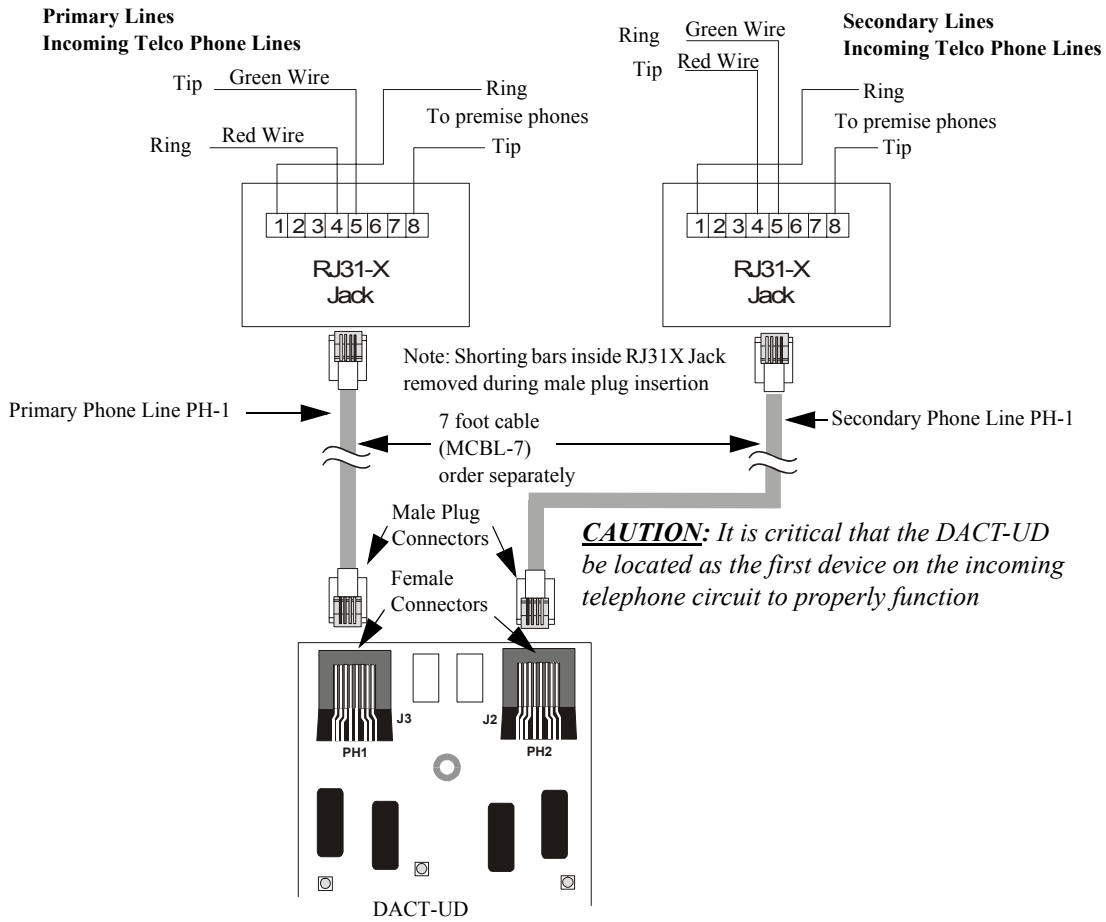

Figure 2.5 Wiring Phone Jacks
- Refer to "Digital Communicator" on page 10, before proceeding with this step. Connect the premises primary and secondary phone lines to the DACT as illustrated in Figure 2.5 and test the system for correct operation